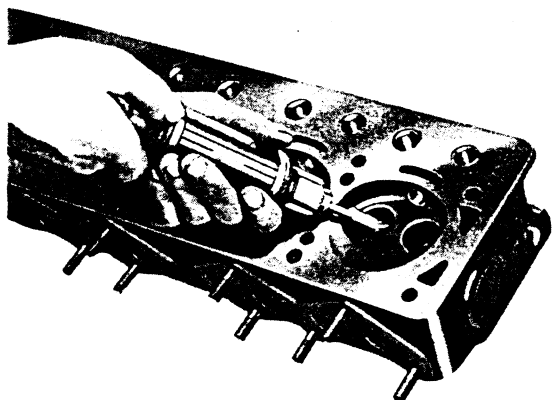

FIG. 13
2. Remove all carbon deposits from combustion chambers, valve ports and guide shrouds by means of suitable scrapers, or pneumatic hand tool, as shown in Fig. 13.